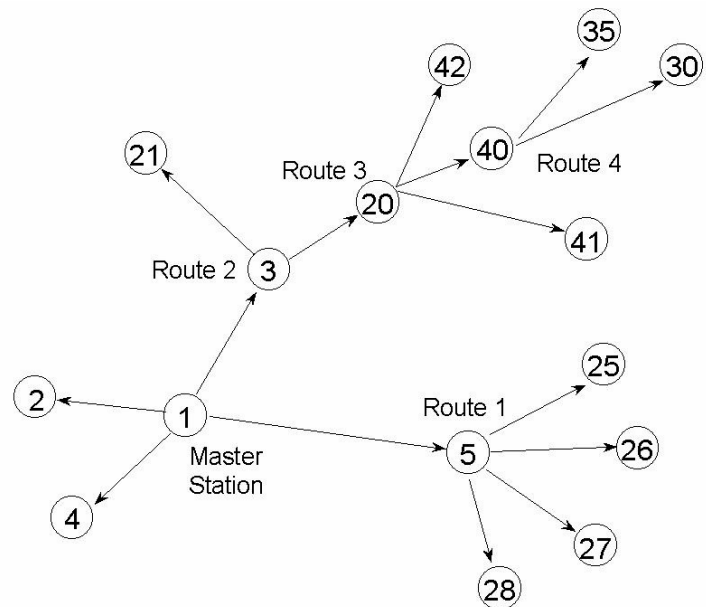

Figure 1: Repeater Example
Any ESTeem Model 195M, 195H or 195C in the wireless network can be used as a repeater to reach a remote location. Manually entering repeater routes in a terminal for testing a connection (connect command) or remote programming (program command) is as simple as adding the routing in the address with the repeaters identified by commas. For example, using Figure 1, if your computer is connected to the ESTeem 195M/H/C at the Master Station and you want to connect to address 21, your command would be “connect 3,21”. Also if you wished to connect to address 30 from the Master Station your command would be “connect 3,20,40,30”.
Figure 1 shows a complex, 16 node site with four (4) repeater routes. This example will illustrate the terms used in the utility and how they correspond to the stations in your site.
Look in Figure 1 and note that four of the ESTeems will relay the radio signal for other ESTeems (addresses 3, 5, 20 and 40). These are the repeater routes. A total of four repeater routes will need to be completed for this site.
Route 1: To complete the first repeater route entry, refer to Figure 1 and find repeater address 5 (Route 1). The ESTeem/PLC addresses that use this route are addresses 25-28. In the 195M/H/C Configuration Utility select the Route/Append tab and press the *List View* button (Figure 2
Route 2: Refer to Figure 1 and find Route 2. This route has a repeater address of 3 and addresses 20 through 21 use this route. **Note:** Although address 20 is a repeater for another route, it requires an ESTeem address and needs to be counted. Type 3 in the first repeater block, 20 in the first address field and 21 in the second (Figure 4).